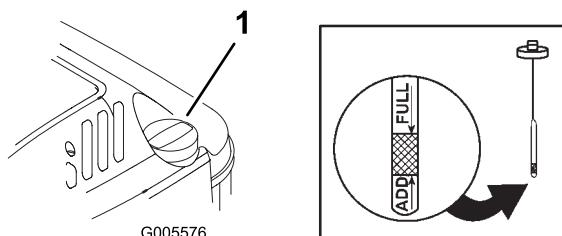

Figure 8
Before each use, ensure that the oil level is between the Add and the Full marks on the dipstick (Figure 8).
2. Clean around the dipstick (Figure 8).
6. Read the oil level on the dipstick (Figure 8).
Before you use the mower, ensure that the oil level is between the Add and the Full marks as shown on the dipstick (Figure 8). If the oil level is below the Add mark, add oil. Refer to Filling the Crankcase Oil.